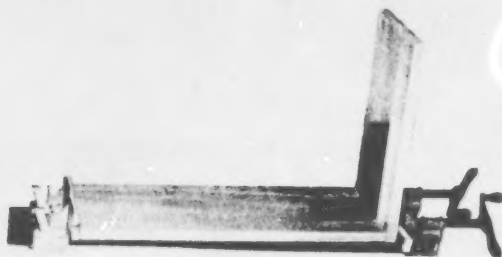

Figure 13-3 Checking for squareness
4. Check your project for squareness with a try square (Figure 13-3).